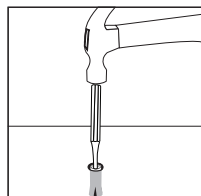

Figure 9
8. Hammer a drift punch or phillips head screwdriver into the expanding Drop-in Anchor so that it flares out and firmly locks into place to prevent it from turning when mounting the safe (Figure 9).